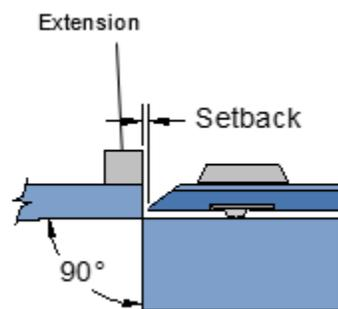

Figure 8-2
3. Set the machine for the material thickness you will be bending. Raise the bending leaf 90° as shown in (fig. 8-2). Rotate the knobs on each end of the clamping bar which adjusts the setback distance gap. Set this gap at slightly more than the material thickness to achieve an accurate bend. There are three positions on the knobs (0 – 1 – 2) which are useful when doing repeat bending.